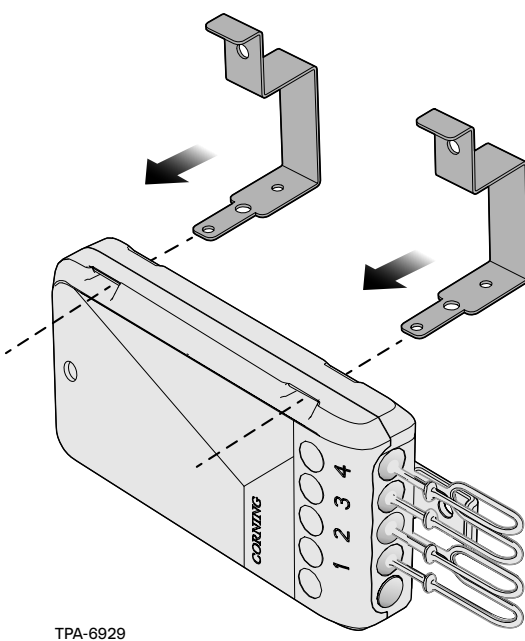

Figure 5
**Step 1:** Slide main bracket into side slots on terminal, from the rear (Figure 5).